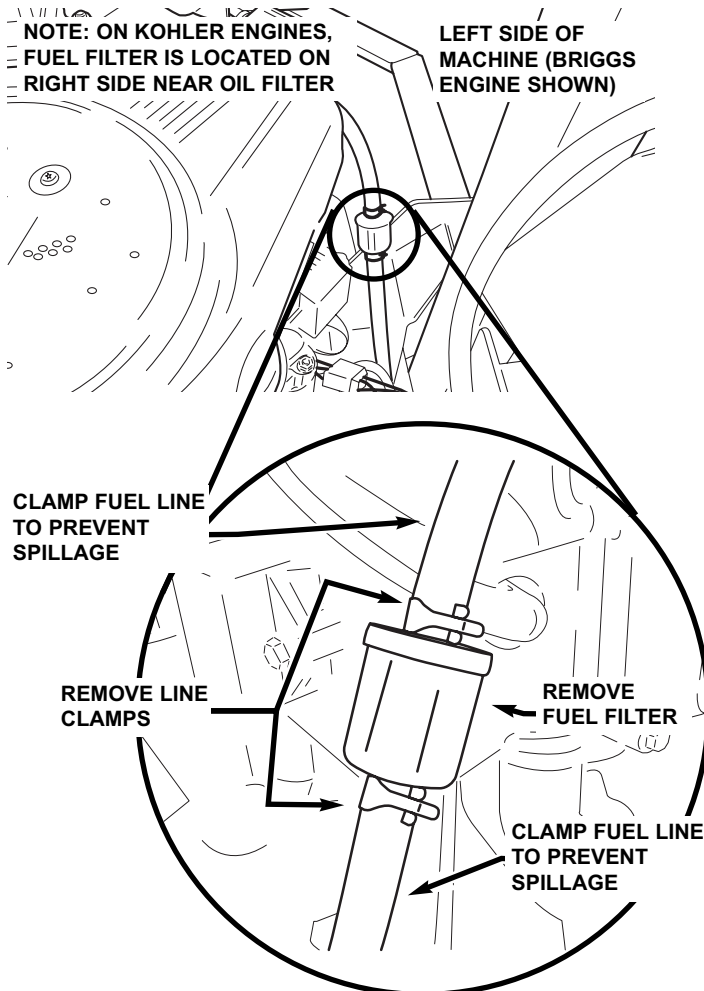

FIGURE 4.8
3. Install new fuel filter. **IMPORTANT:** Some fuel filters are fuel flow directional. Check for arrow that shows fuel flow direction. Reinstall fuel line clamps. See Figure 4.8.